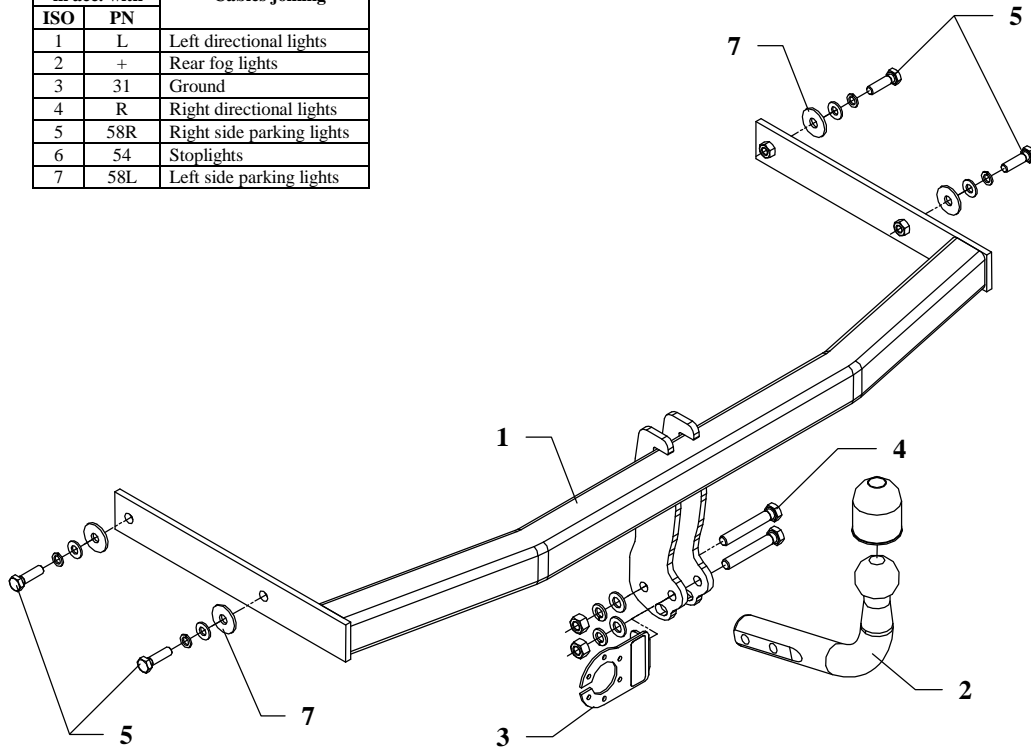

Fig. 1
3. Put the main bar of the towing hitch (pos. 1) in this way so holes of the towing hitch agree with holes in chassis members and fix using bolts M10x35mm (pos. 5) from towing hitch accessories as shown on figure 1.